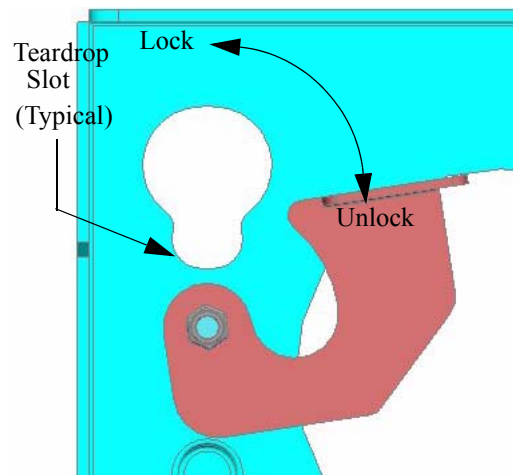

Figure 4. Locking Device
1. Make sure power is not supplied (turned off) to the display and the locking device is in the unlocked (down) position (see Figure 4) before attempting to mount the display.
4. Secure the mounting bracket to the MSP-LA by completely engaging the locking device (see Figure 4).
2. Release the locking device (see Figure 4).